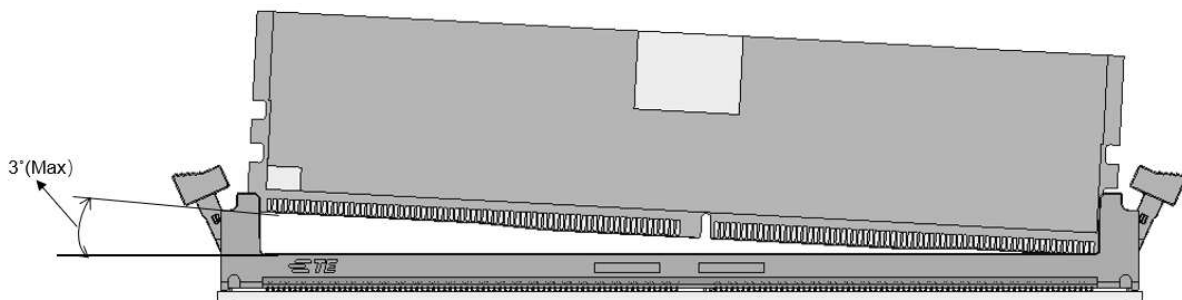

Figure 8
When mating or unmating module, care should be taken to prevent longitudinal rocking of the module with respect to the socket, Angles greater than 3° could cause damage to the housing or misregistration of the contacts and module circuit pads, refer to Figure 8.
1. The socket extractors must be moved to the open position. See Figure 8.